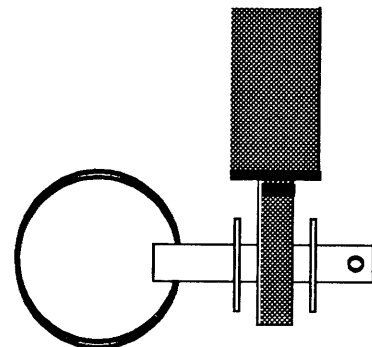

Figure 38. Rigid Drive Door Dampener
4. Pull the locking pin out of the rear dampener bracket to release the dampener (Figure 38).